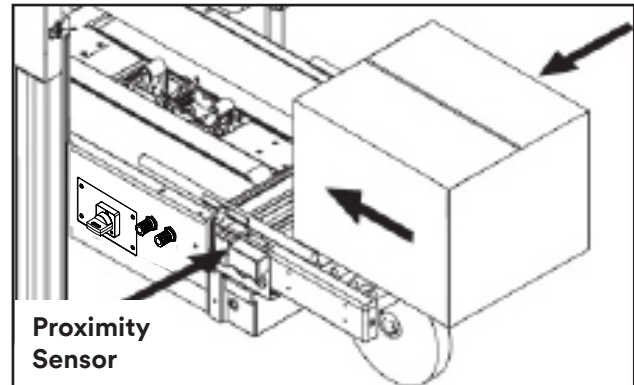

Figure 7-19 Box Centering Proximity Sensor
1. A box centering Proximity Sensor in infeed roller conveyor actuates movement of the centering guides. When the operator pushes a box onto the infeed conveyor, as shown in Figure 7-19, the proximity sensor activates causing the air cylinder powered centering guides to move inward, thereby centering the box.